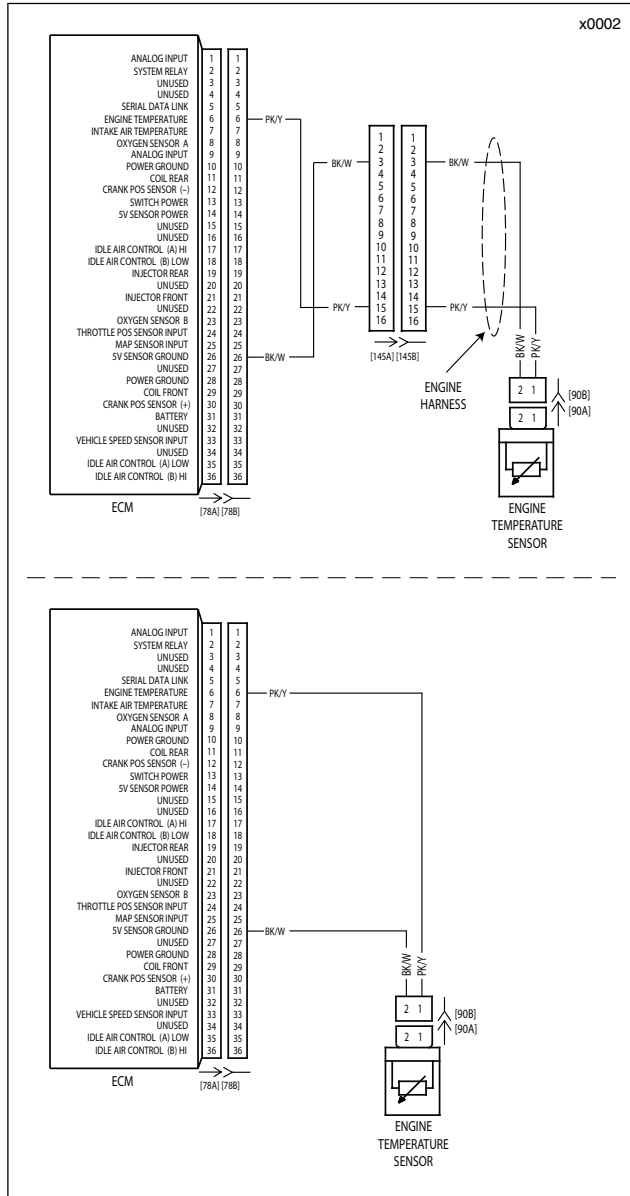

**Figure 4-40.ET Sensor Circuit**
- Replace Figure 4-40 with the figure below.